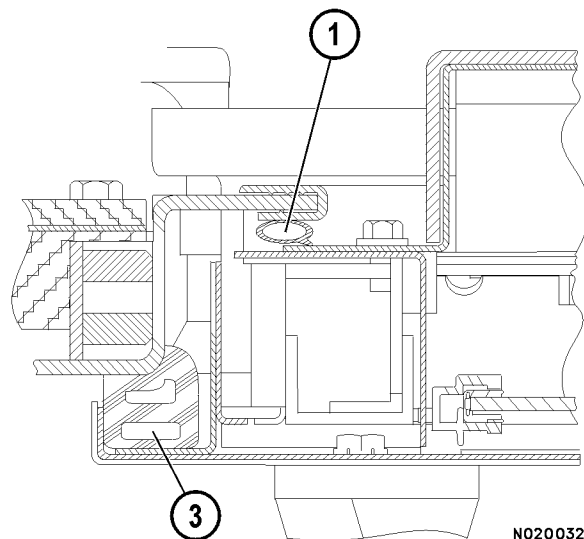

FIGURE 2-17.
3. Install the seal so that the corners of the seal fit up into the corners of door frame (3, Figure 2-17).
1. Starting at the lower center of the door opening, pull up on one end of the seal. The seal should pull loose from the cab opening lip. Pull the seal loose all the way around opening (1, Figures 2-17 and 2-18).